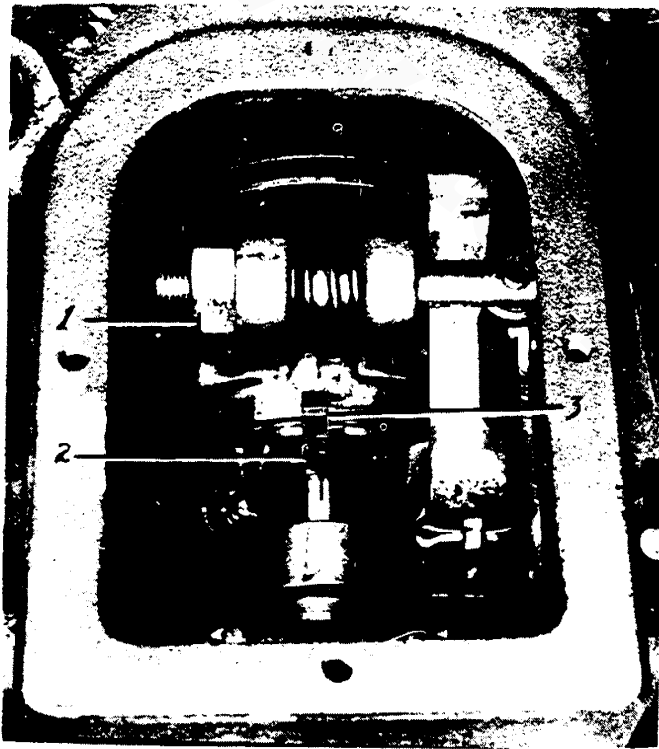

Fig. 71 Reverse Gear - Adjustment - Joes Model
(2) Loosen the screw (2) which holds the clip (3) in the notches cut in the gear case housing until the clip can be lifted out of the notch. See Fig. 71.
(3) Turn the gear case cover clockwise one notch.
(1) Remove the reversing gear cover plate.
(2) Remove cotter pin and slack off adjusting nut (1). See Fig. 71.